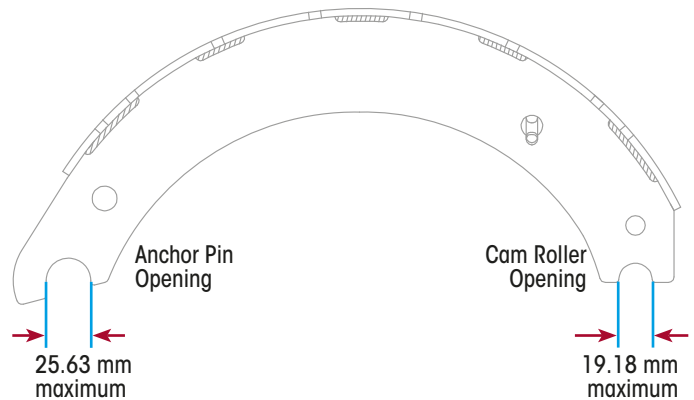

Figure 54: Checking Brake Shoe Openings
2. Check anchor pin and camshaft roller openings for wear, out-of-round or flaring. The anchor opening must not exceed 25.63 mm and the camshaft roller opening must not exceed 19.18 mm in diameter. Refer to Figure 54. Replace shoe if wear is above these limits.